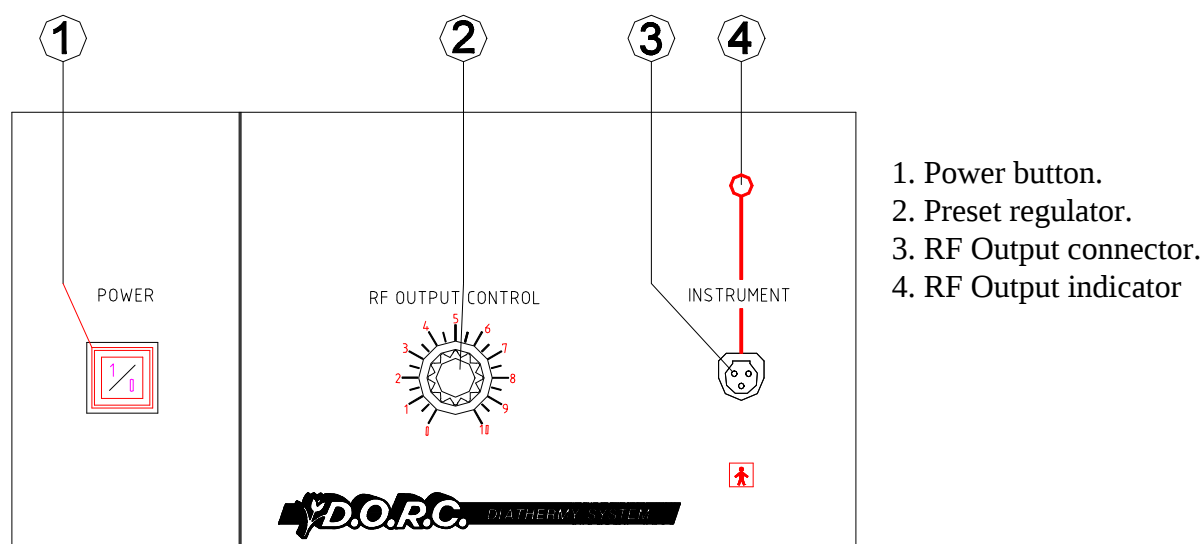

Fig. 2 Diathermy unit - Front Panel
- Adjust with CT1 & 2 the output to the most perfect sinus shape. See fig 2.